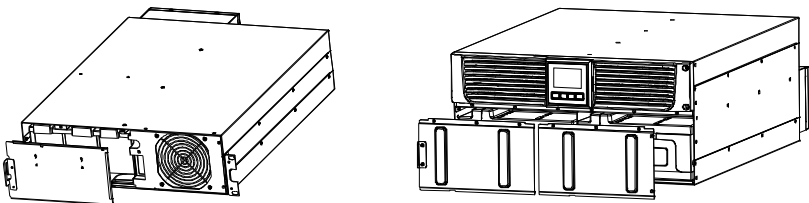

Figure 13. Removing the Battery Protection Plate
2. Remove the battery protection plate (see Figure13):